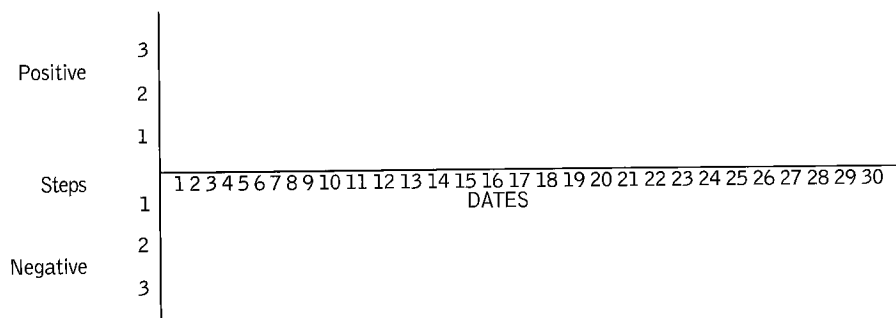

Fig 4-8. Developer activity graph chart
- Graph the results (see Fig 4-8).